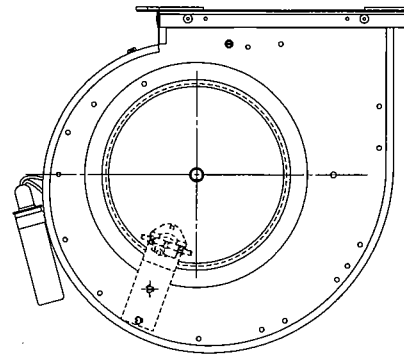

Fig. 10B — Left Hand Installation
2. Re-attach the auxiliary limit mounting bracket to the top side of the blower housing with the two screws removed in step #1, as shown in Figure 10B.